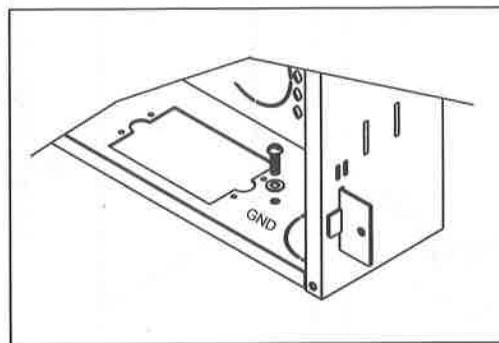

Fig. 3
**Grounding the enclosure: (see Fig. 3)**